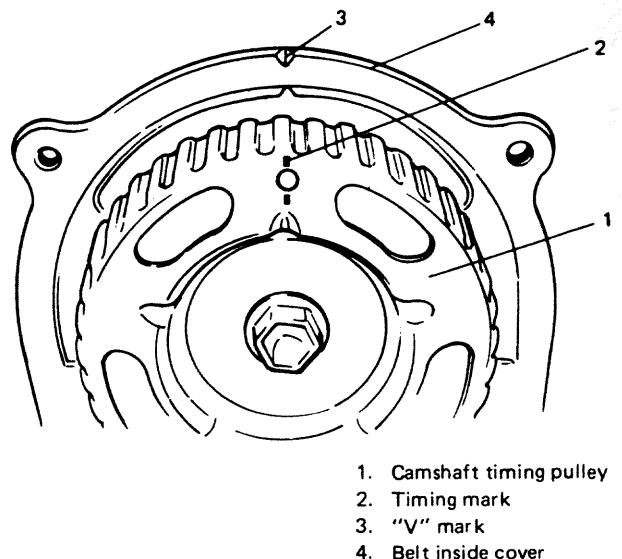

Fig. 3-6-48 Timing marks
- 7) After loosening all valve adjusting screws all the way, turn camshaft pulley clockwise and align timing mark on camshaft pulley with "V" mark on belt inside cover as shown in Fig. 3-6-48.